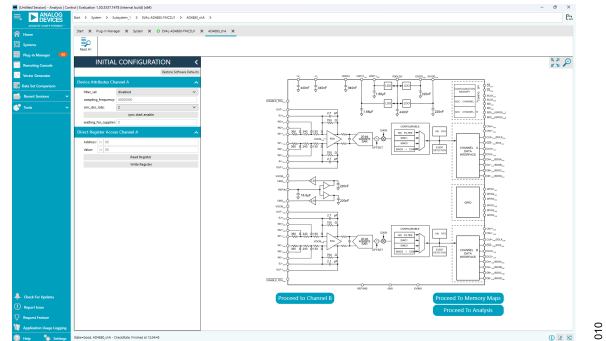

Figure 10. AD4884 Channel A Tab in the ACE Software
- ▶ Two buttons in the lower-right corner (**Proceed to Memory Maps** and **Proceed to Analysis**), which are shown in Figure 10.